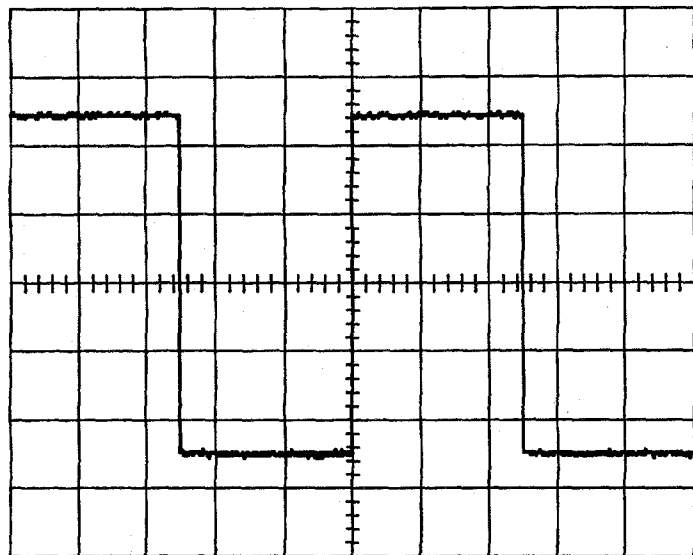

Figure 20
- Start the automatic amplitude measurement (figure 20) :
- press on the AUTO key (46) ;
- press the More key (key 39) twice to display the menu containing the amplitude measurement Vamp ;
- press under Vamp (key 41).
- press under F (41).